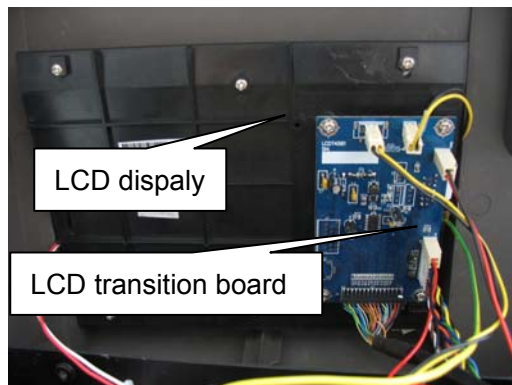

Figure 4-26
1. Switch off the power supply, remove the power cord, and open the upper cover of the analyzer, and LCD transition board can be seen as shown in Figure 4-26.